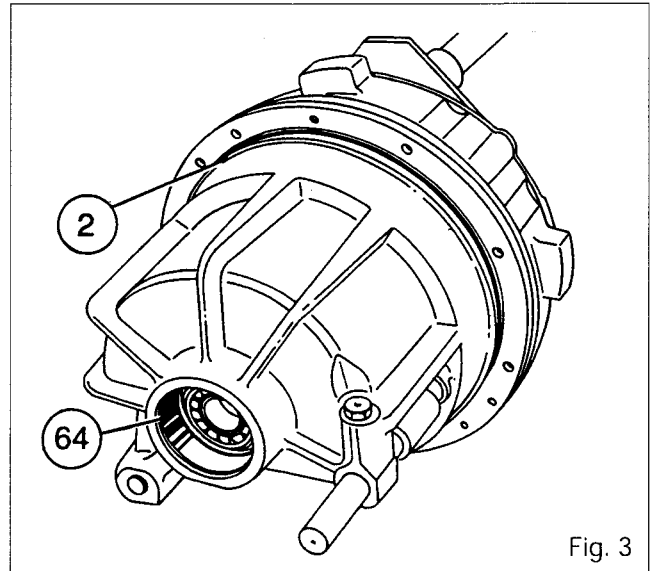

Fig. 3
8. Discard the O-rings **(2)** (for gearbox with spring-loaded clutch) and **(3)**. Recover the cup **(64)** and the locating pin **(4)** (Fig. 3 and 4).
9. On the input unit, check that the cup **(64)** and O-ring **(2)** (if fitted) are in position (Fig. 3).
40 Kph version : stepup (Fig. 3)
In this mode (Fig. 3), there is no supply to the hydraulic components and the Speedshift operates as a purely mechanical transmission. Oil in chamber of pistons (28) and (48) returns to the housing via the gallery C and the solenoid. The drive from the hollow primary shaft (36) is transmitted to the input sun gear /7\ by the splines which secure the gear to the shaft. Sun gear /7\ drives the compound planetary gears /12\ which are mounted to rotate freely on spindles /8\.